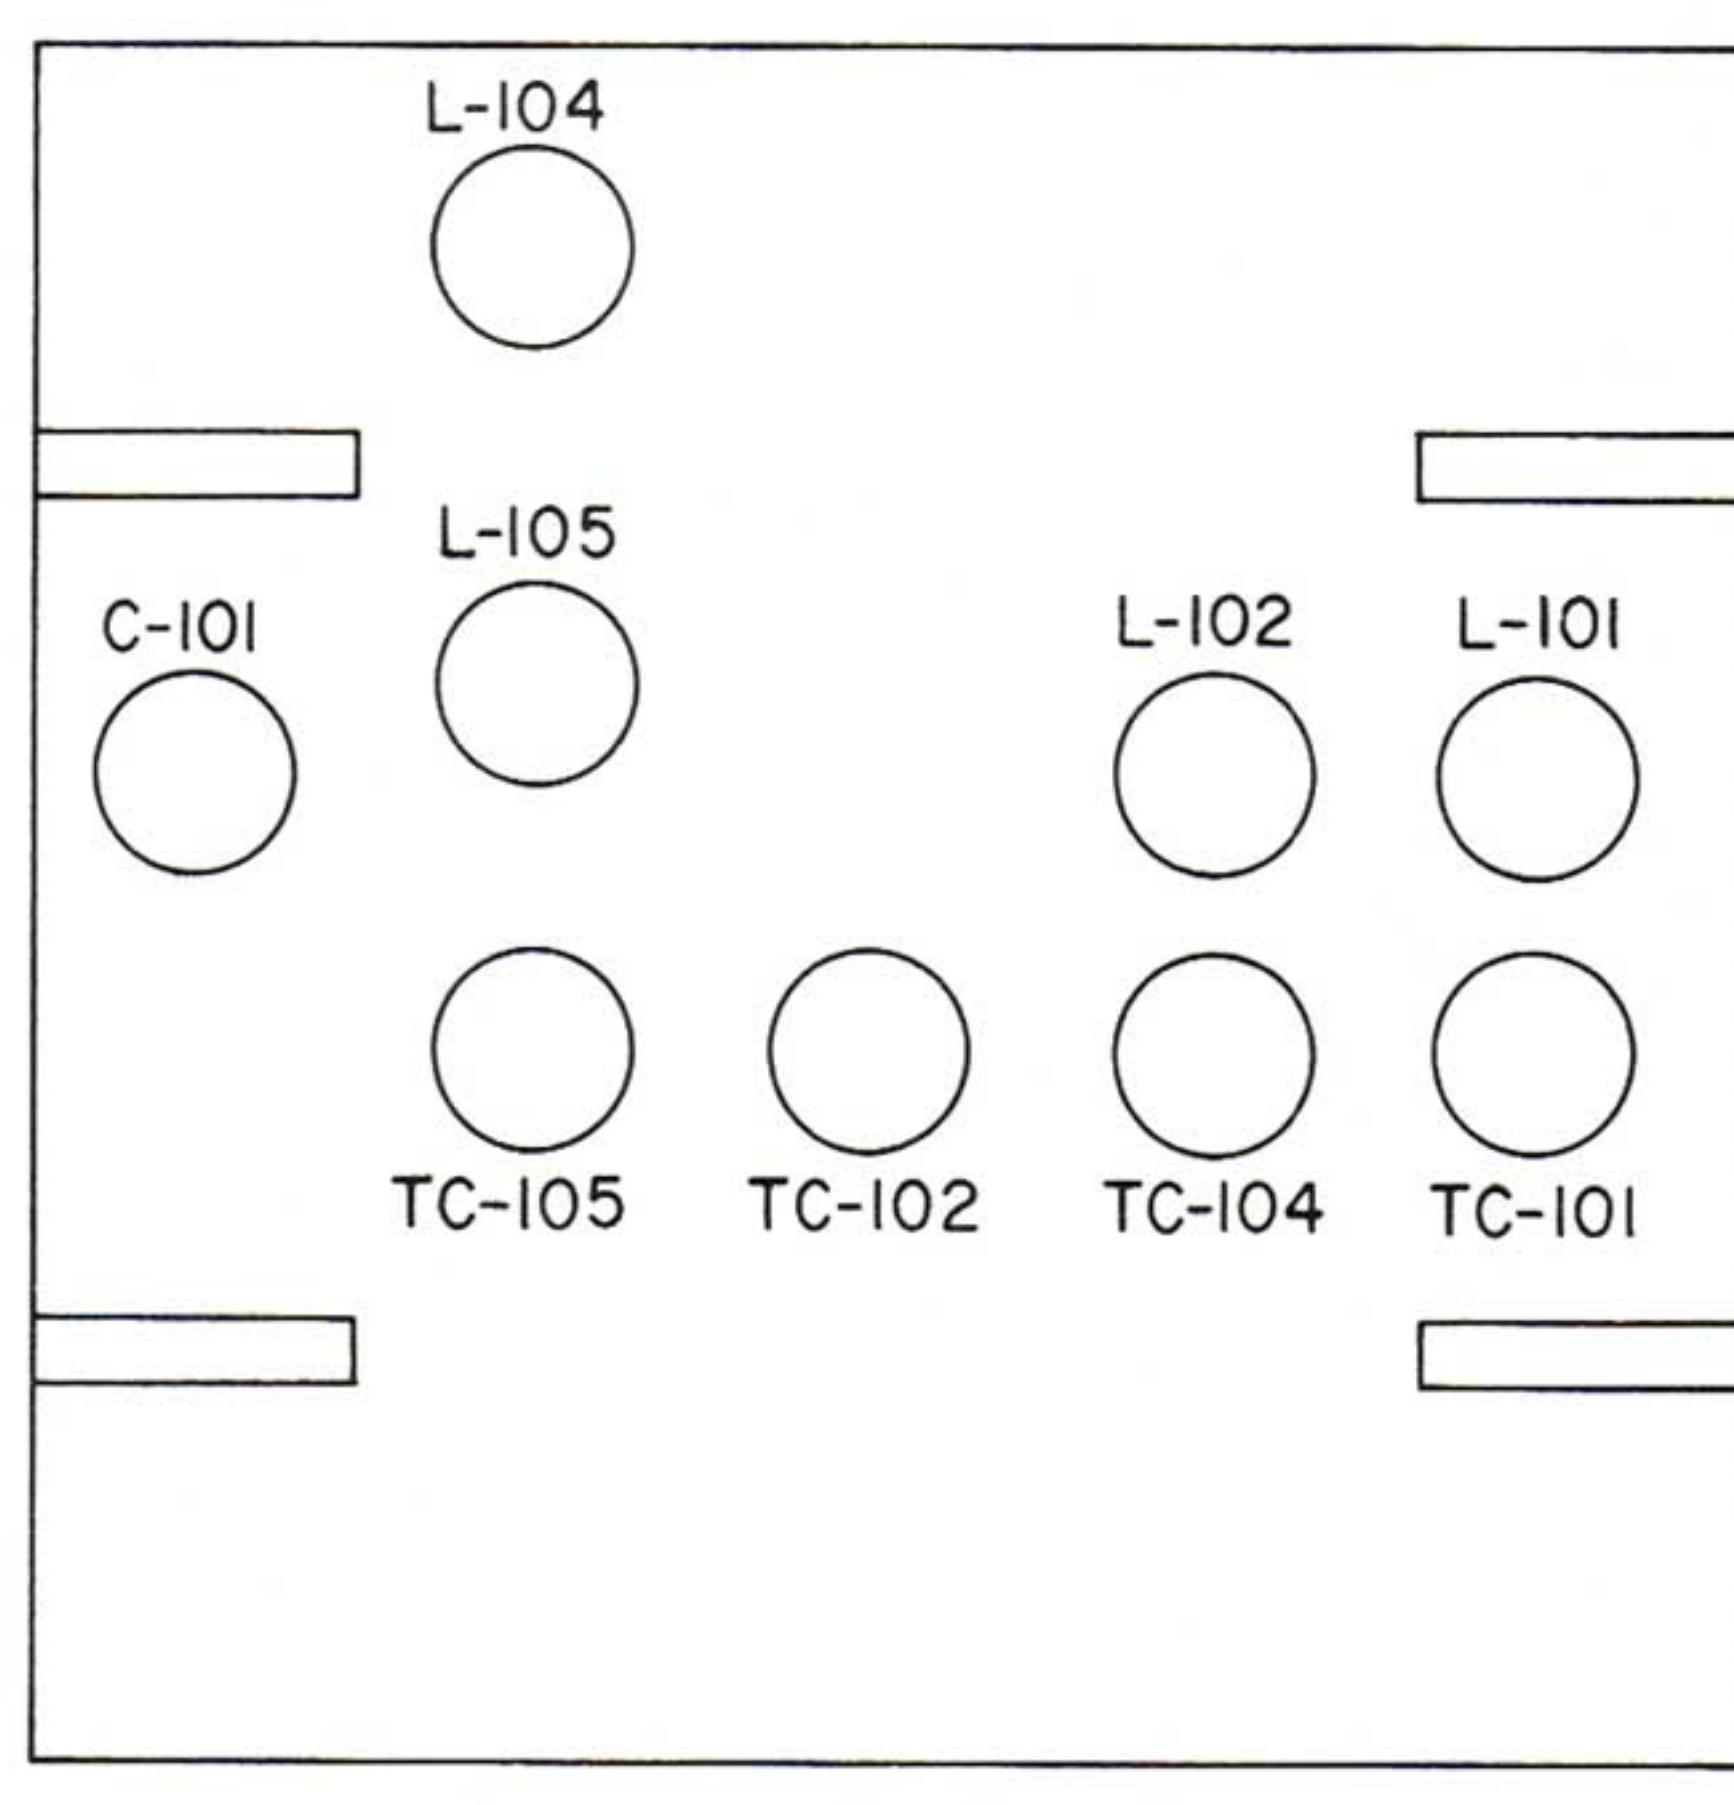

Fig. 4
- (c) Connect the Distortion Meter to "TAPE-REC" terminal on rear panel (see Fig. 4).
Adjust L-105 of the front end (see Fig. 4) so that the Distortion Meter Level indicates maximum.
Adjust TC-103 (see Fig. 4) on the front end so that the Distortion Meter Level indicates maximum.
- (c) Adjust the cores of L-101 and L-102 on the front end of Model AA-6300 (see Fig. 4) so that the Distortion Meter Level indicates maximum and the distortion factor is minimum.